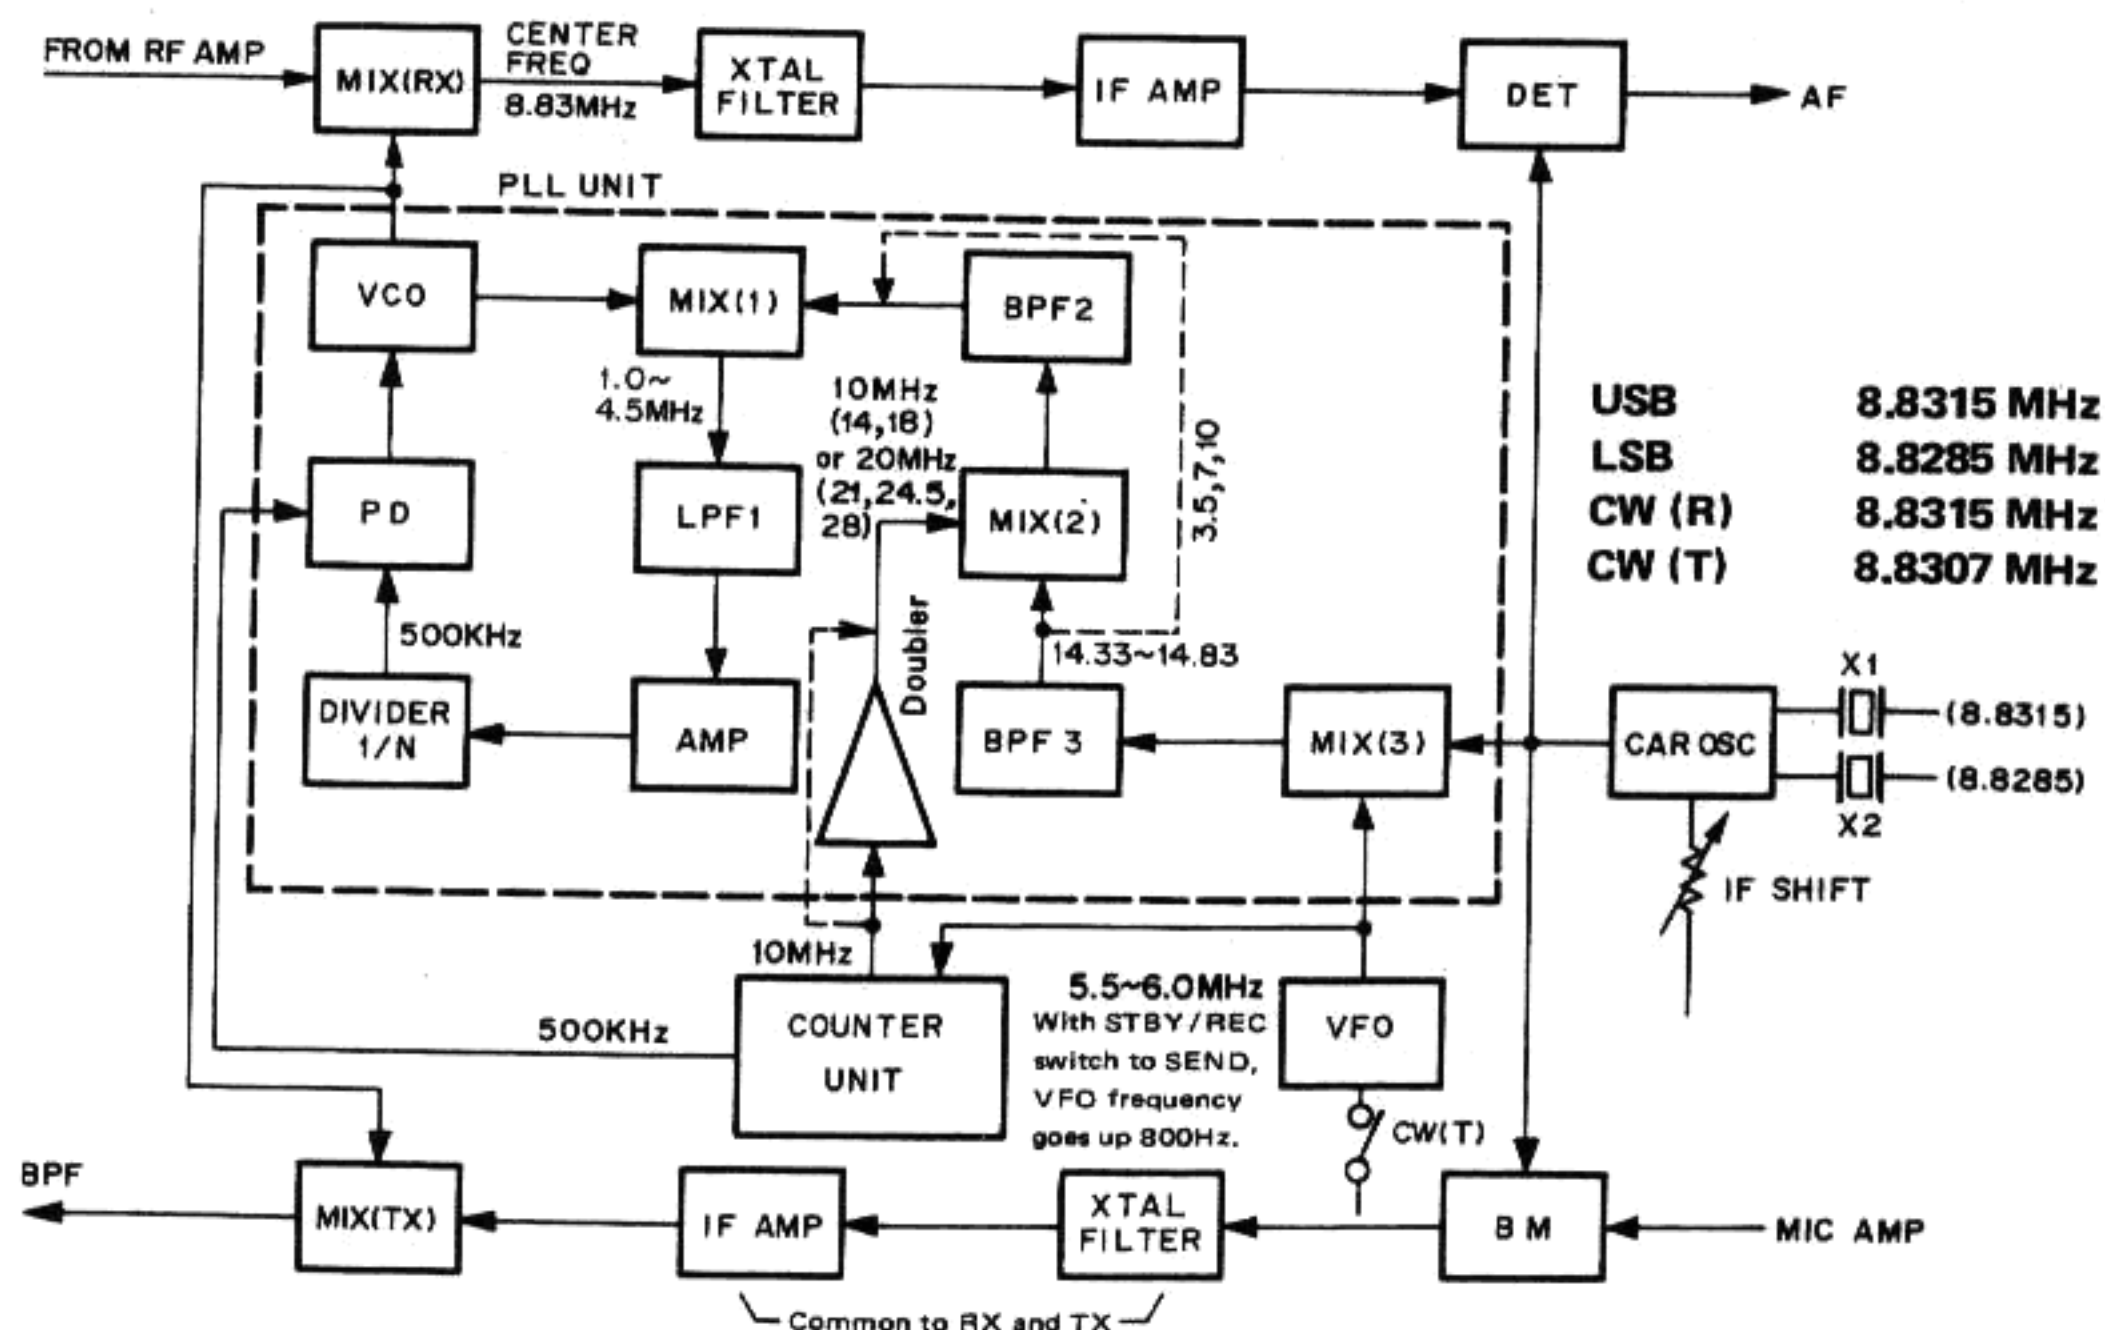

Fig. 1 TS-130 Frequency configuration
The TS-130 employs single conversion with a unique PLL circuit, as shown in Fig.1.
Referring to Fig.1, MIX (3) combines CAR and VFO signals and is operated straight through to mixer (1) on 3.5, 7 and 10 MHz. MIX (2) operates at 14 MHz and above with the output of MIX (3) to provide mixer (1) input, as shown in Table 4. MIX (1) output is filtered, amplified, shaped and divided by the programmable divider to obtain 500kHz output.
The CAR oscillator contains one oscillator and two crystals for LSB, USB and CW operation. The oscillator frequency in each mode is listed in Fig. 1.